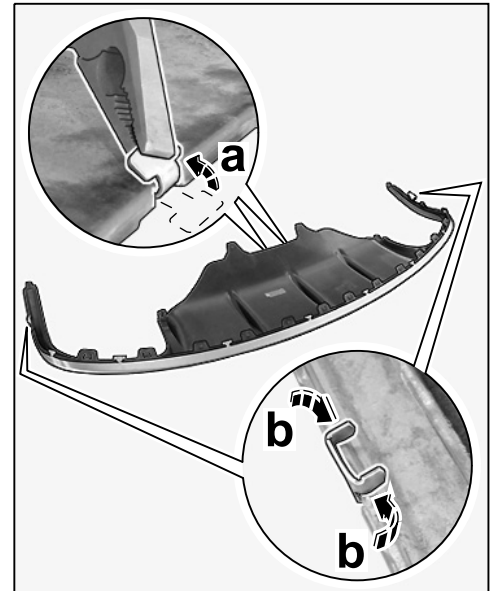

Figure 7
- 2.7 Bend the tabs on the two outer retaining pivots over by approx. 90° ⇒ *Figure 7* -**arrow b**- and by 180° on the rear retaining pivots ⇒ *Figure 7* -**arrow a**-.